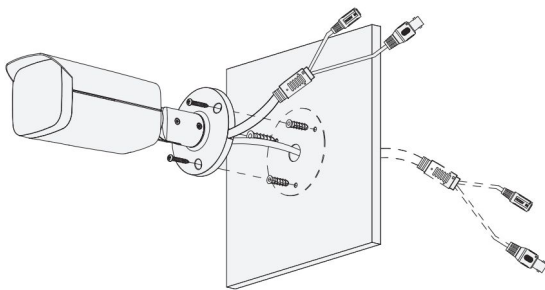

Figure 2-2
Step 3. Thread the Installation screws through the camera base as well as any cabling through the cable exit if necessary and drill into the expansion screws. Side exit for cabling is optional. See Figure 2-2.